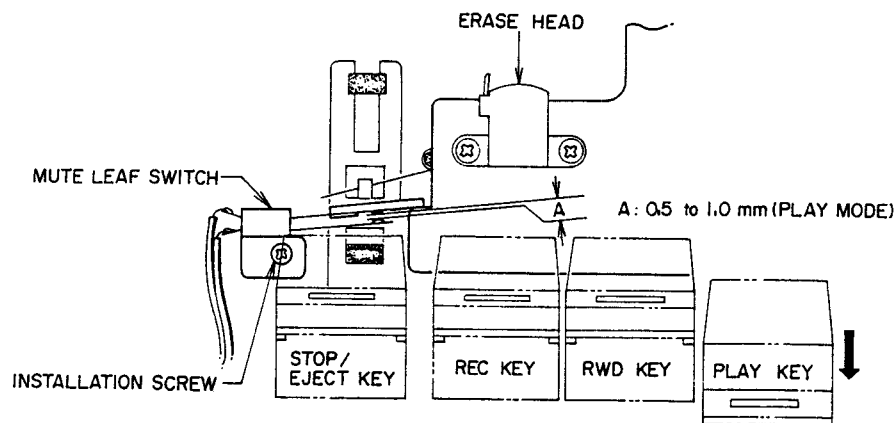

Fig. 9
1. MUTE LEAF SWITCH INSTALLATION POSITION ADJUSTMENT (Refer to Fig. 9)
When in the playback mode, the space A should be 0.5 to 1.0 mm as in Fig. 9. To adjust, turn the leaf switch installation screw.